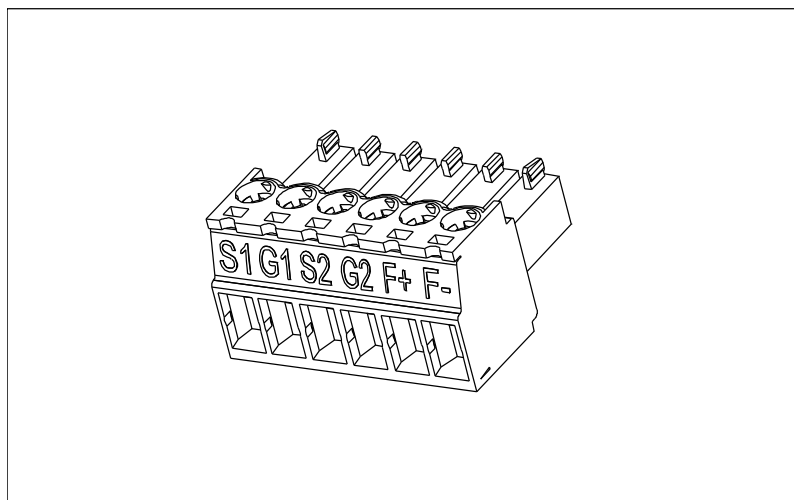

Figure 6. STO connector.
- STO terminal connector (six pins black connector, see Figure 6.)